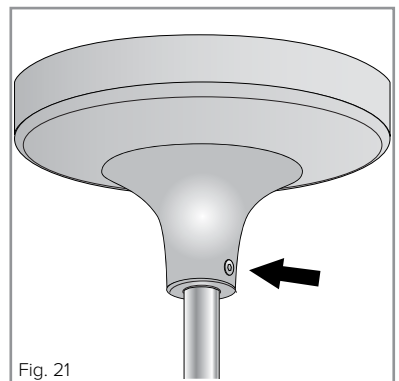

Fig. 21
15. Slide the ceiling rose cover up to conceal the fittings. This is held in position by a single grub screw (Fig. 21).